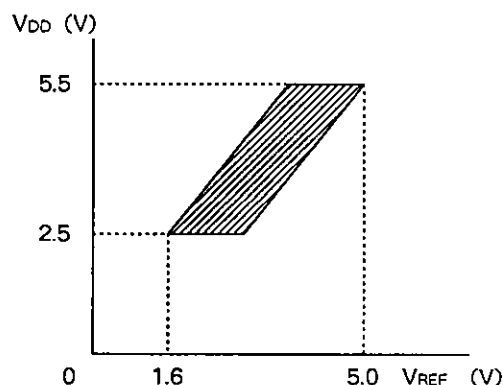

Fig. 5 Power supply voltage detection reset function chart
The graph in Fig. 5 shows the relationship between the power supply voltage V_{DD} and reference voltage V_{REF} of the power supply voltage detection reset function.
- Note 1)** The graph in Fig. 5 serves as guide to the function operation area obtained using average devices.